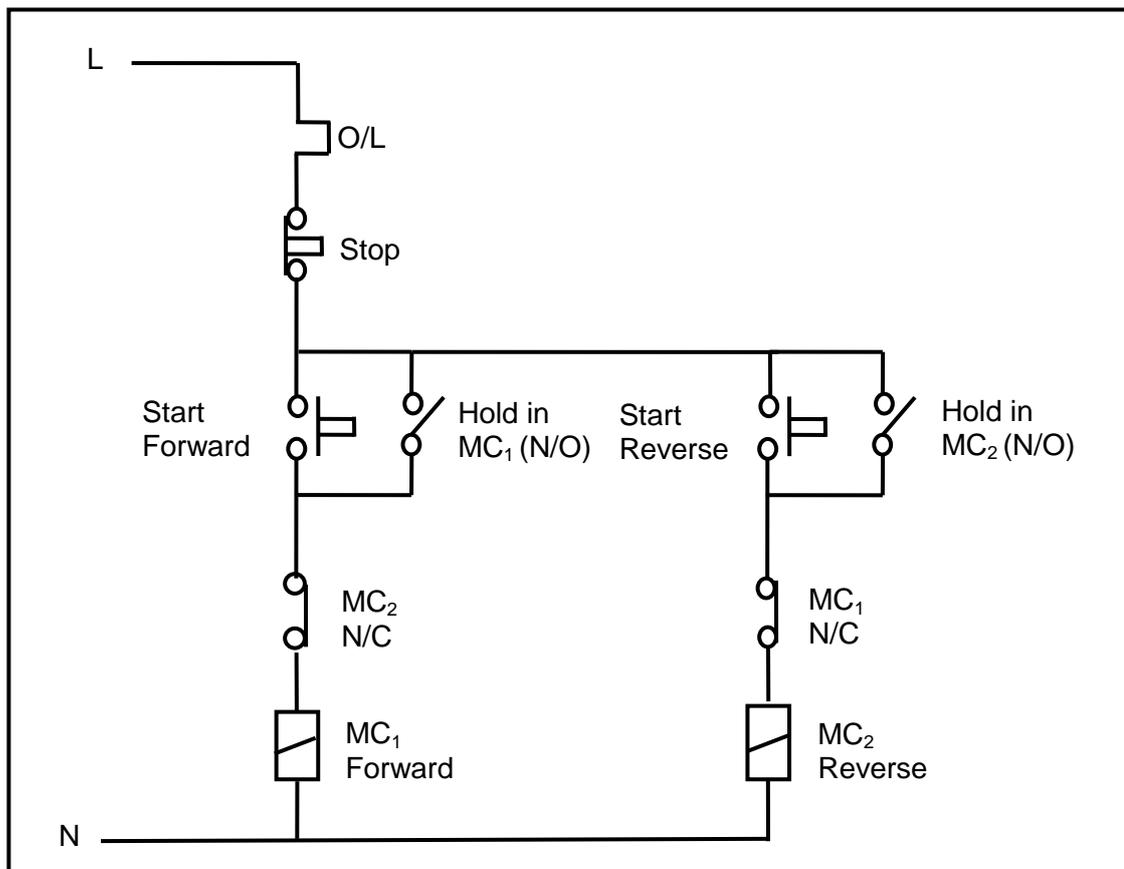

FIGURE 4.1: CONTROL CIRCUIT OF A FORWARD-REVERSE STARTER
- 4.4 Refer to the circuit diagram in FIGURE 4.1.